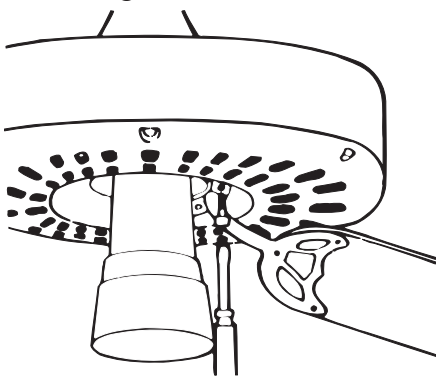

Figure 15
6. Fasten the screw onto the motor, but do not overtighten. See Figure 15.